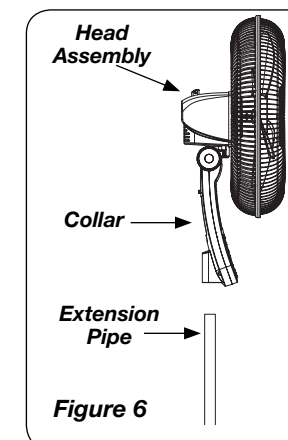

Figure 6
2. Place **Head Assembly** with **Collar** onto **Extension Pipe**. (**Figure 6**)